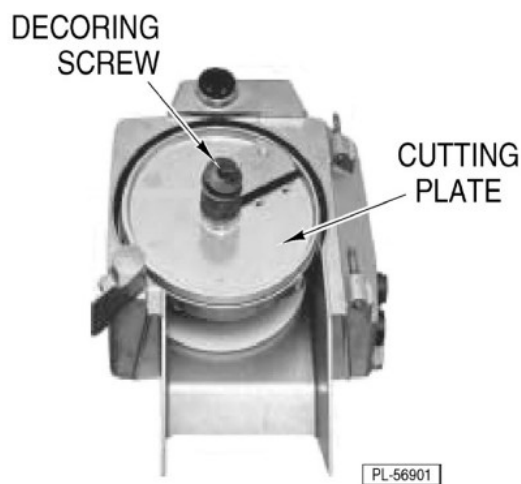

Fig. 5
6. Avoid contact with sharp knife on the cutting plate and put the desired cutting plate on the shaft and turn the cutting plate until it falls onto its coupling (Fig. 5). Turn counterclockwise to lock.
7. Put the decorating screw on the shaft. Turn it counterclockwise to tighten (Fig. 5).